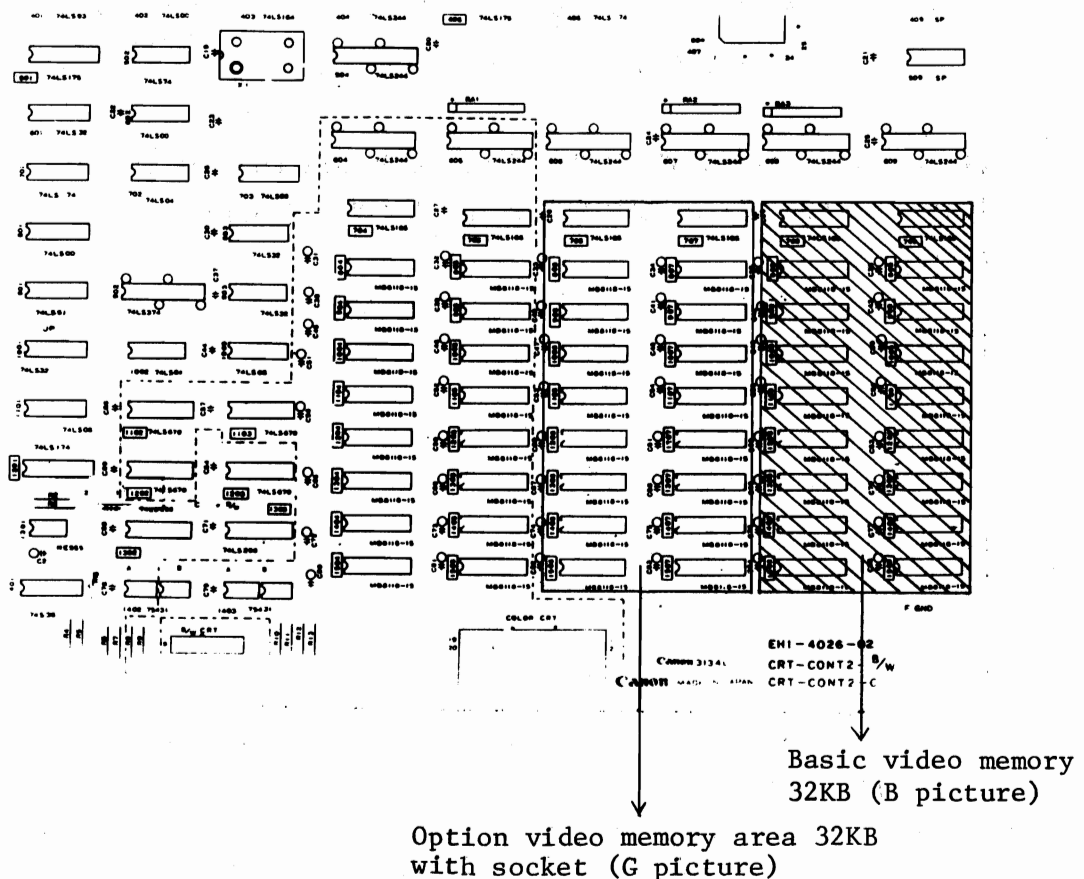
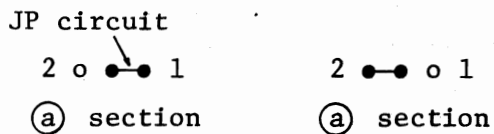

Fig. 4.3.11
Fig. 4.3.12
- ④ After the additional installation has been completed, solder the JP circuit of (a) section illustrated in Fig. 4.3.11 as in Fig. 4.3.12.